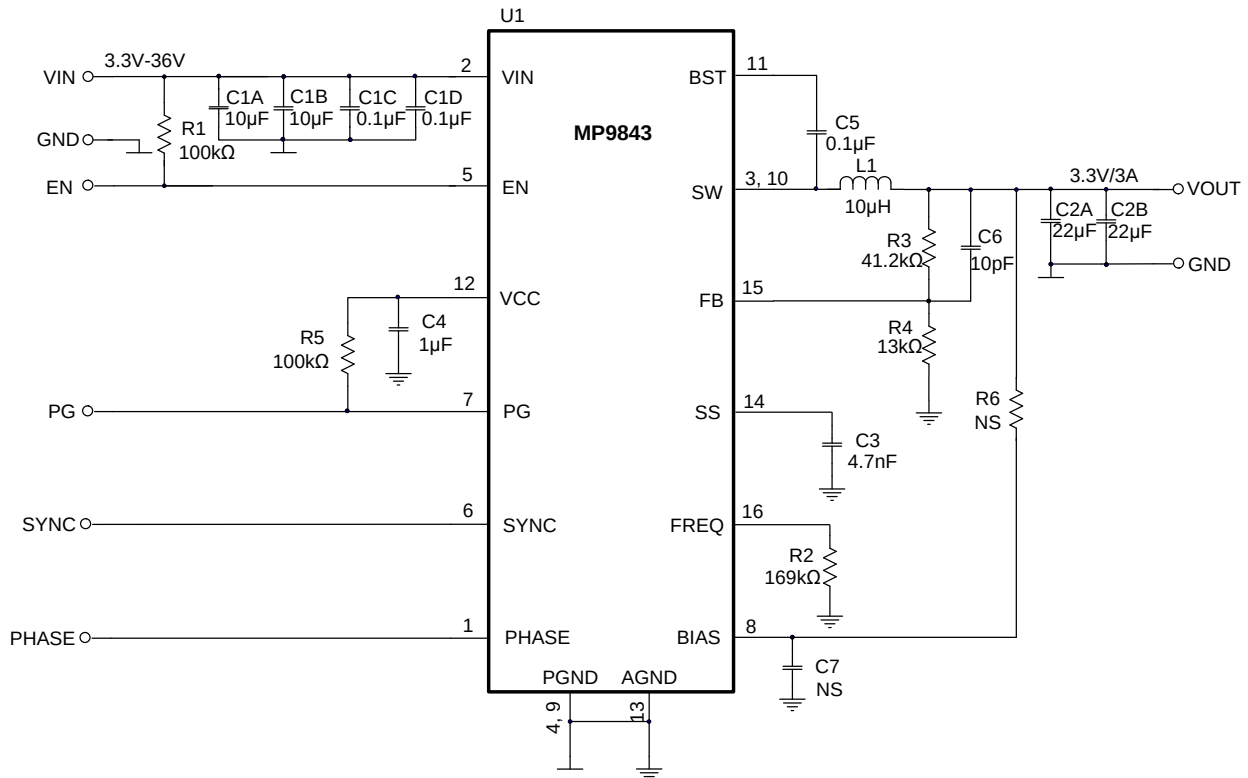

Figure 9: $V_{OUT} = 3.3V$, $F_{SW} = 500kHz$
- 7) The recommended PCB layout is based on Figure 9.